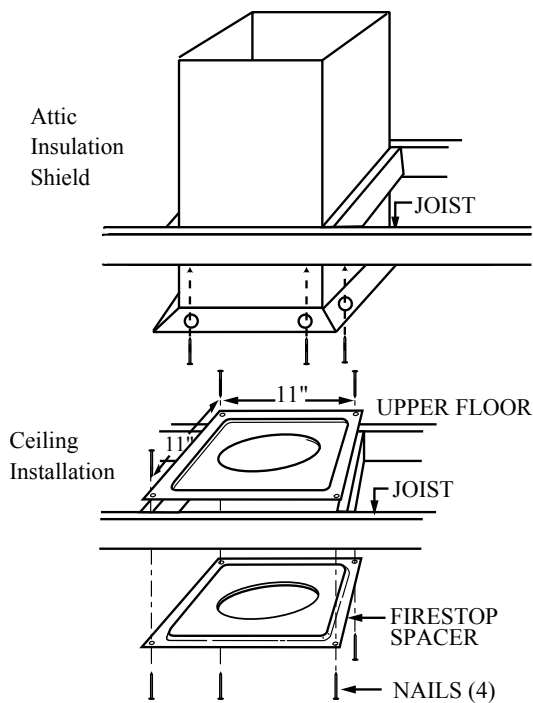

Fig. 37
6. Place firestop(s) #7DVFS or Attic Insulation Shield #7DVAIS into position and secure. (Fig. 37)